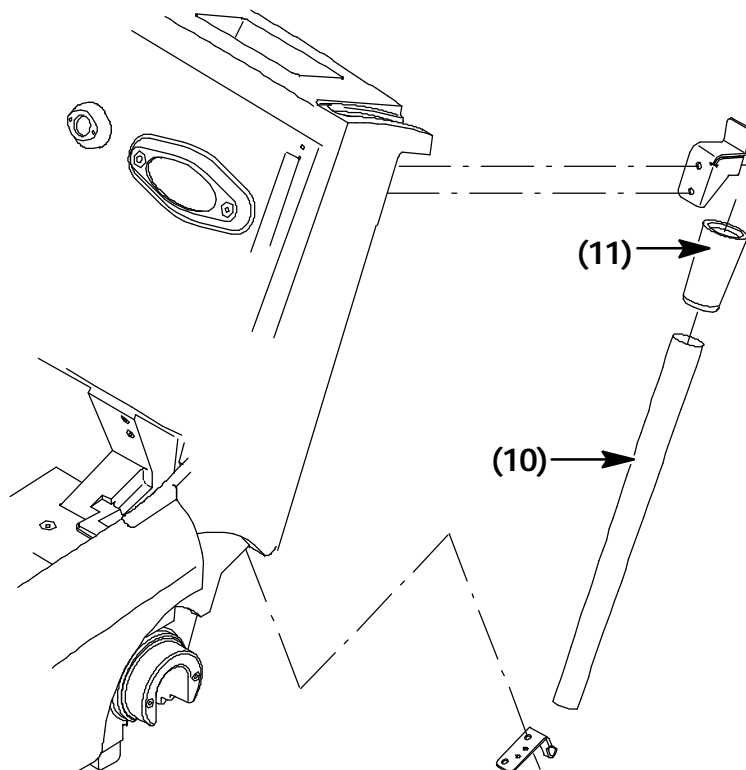

FIG. 4 Vacuum Wand Attachment Parts
20. Install the vacuum wand coupling (11) to the wand extension (10) as shown. Install assembly to existing brackets. (Refer to FIG. 4)